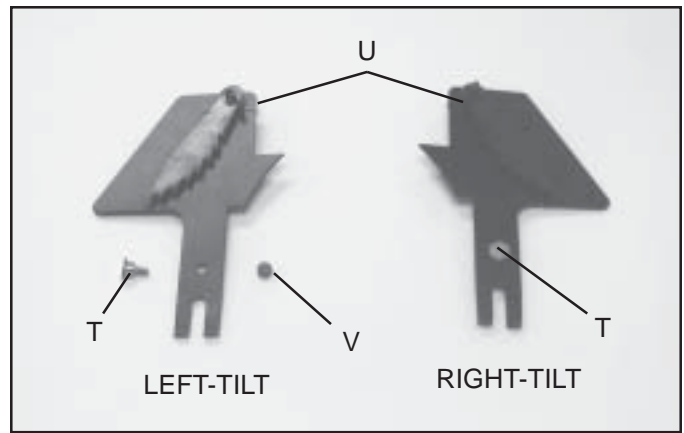

Fig. 11
10. Insert index pin (T) Fig. 11, through the hole in splitter (U), as shown, and fasten with locknut (V). Fig 11 illustrates the index pin assembly arrangement for both right and left tilting arbor saws.